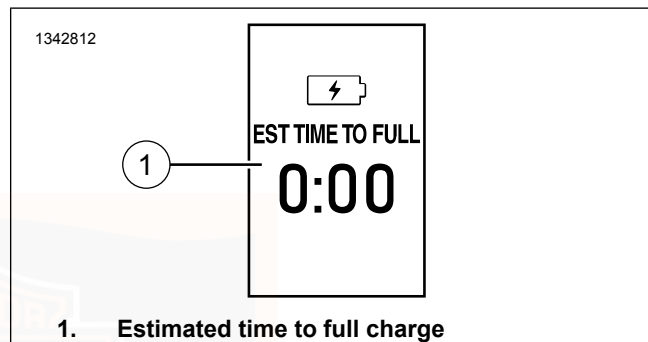

Figure 43. Charging Widget
See Figure 43. The charging widget displays estimated time to full charge (1).